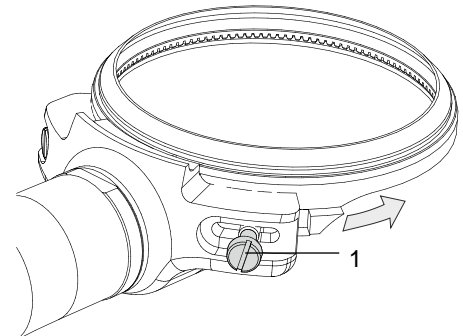

Fig. 7.1 – Loosening the screw
- 1) Loosen the screw (1), see Fig. 7.1.